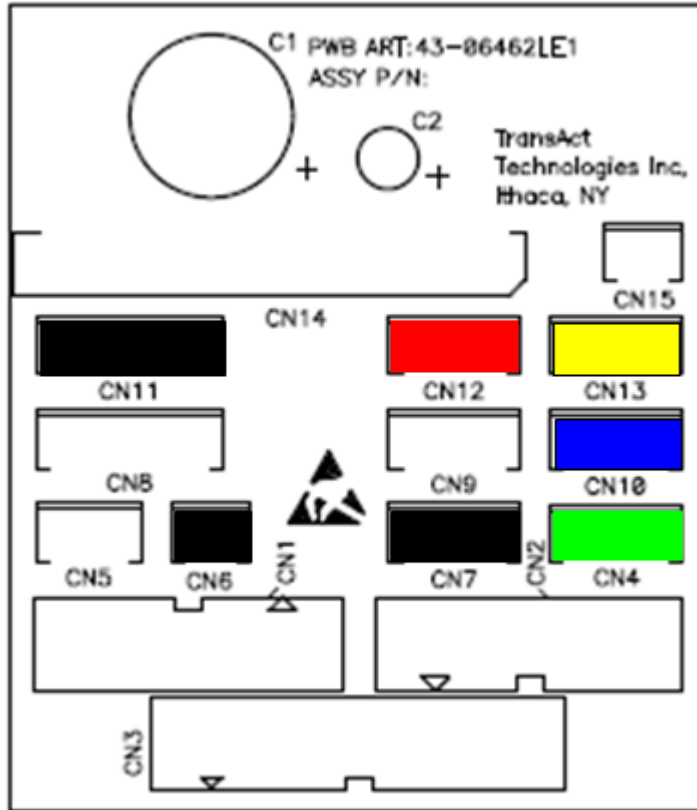

Figure 21. Connectors on Right Side Assembly Printed Circuit Board.
- Connect the knife harness from the Knife Assembly to the printed circuit board, hooking the 2-wire connection for the knife drive motor to connector CN6 (black) and the 4-wire connection for the knife sensor to connector CN12 (red), as shown in Figure 21. Note that the Jam Sensor will already be installed and plugged into the PCB on the Right Side Frame Assembly.